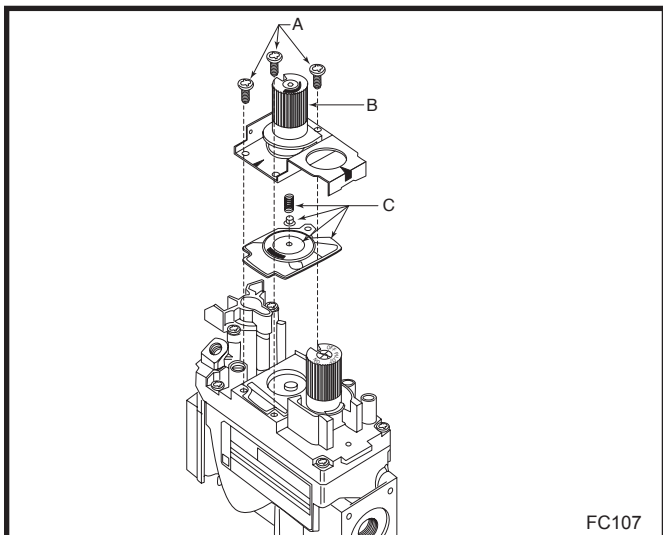

Fig. 74 Remove mounting screws, pressure regulator tower and spring and diaphragm assembly.
1. Using the TORX T20 bit, remove and discard the three (3) pressure regulator mounting screws (A), pressure regulator tower (B) and the spring and diaphragm assembly (C). (Fig. 74)